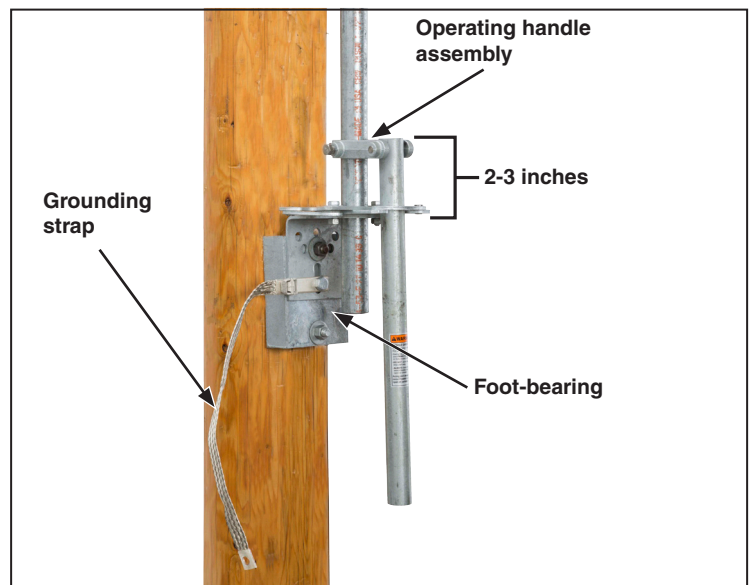

Figure 24. Install the foot-bearing assembly so the handle is 2 to 3 inches above the handle yoke.
STEP 20. Slide the foot-bearing onto the lowest section of pipe at the position shown on the erection drawing. See Figure 24. Adjust the operating handle assembly until it is 2 to 3 inches above the foot-bearing assembly. Tighten the piercing set screws, piercing the pipe. Continue turning until a firm resistance is felt. At the same time, use one of the mounting bolts to attach one end of the ground strap (the end with the grounding connector attached) to the foot-bearing assembly.